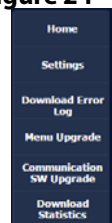

Figure 25
26. Clicking on Menu Upgrade (see Figure 25) allows custom menus created in MenuConnect (see 8197362 MenuConnect operating instructions) to be uploaded to the fryer.